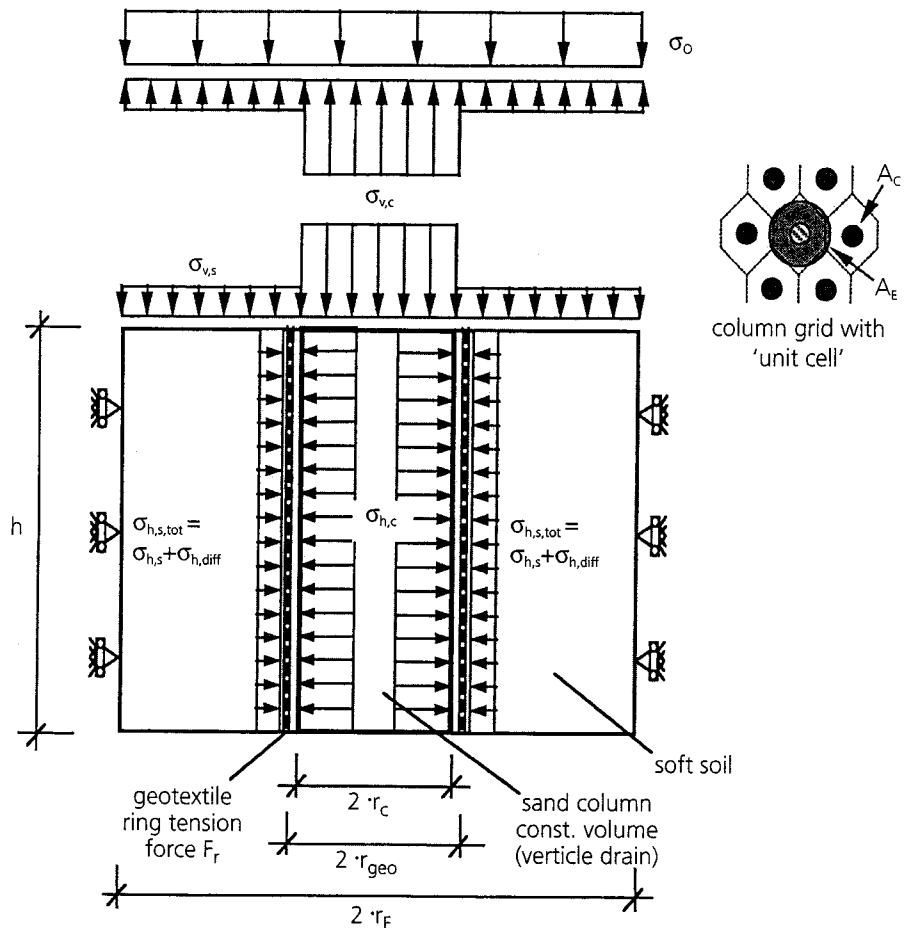

Figure 1. Calculation model for geotextile-encased column system
1.7 and 2.4 m (5.6 and 7.9 ft.). Based on the unit-cell concept, a single column in a virtually infinite column grid can be considered. A_S designates the column area. A_E is the influence area of a hexagonal element of a single column in a triangular grid, which can be transformed into a circular element with an equivalent area. **Figure 1** shows the unit-cell concept described above.
Figure 1 shows the calculation model with a horizontal stress in the column $\sigma_{h,c}$ due to the vertical stress $\sigma_{v,c}$ over the column head. There is also a horizontal earth pressure $\sigma_{h,s, \text{tot}}$ due to the vertical stress $\sigma_{v,s}$ over the soft soil as well as the horizontal support of the casing. This creates a difference in horizontal stress $\sigma_{h, \text{diff}}$. The stress difference results in an expansion of